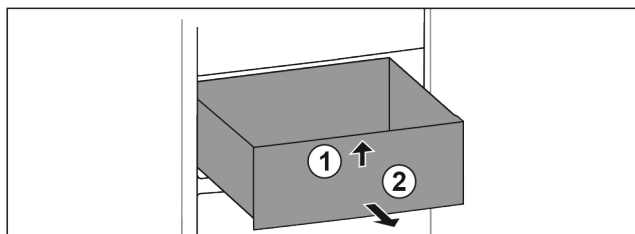

Fig. 24
- Lift drawer at the front. Fig. 24 (1)
- Remove drawer to the front. Fig. 24 (2)